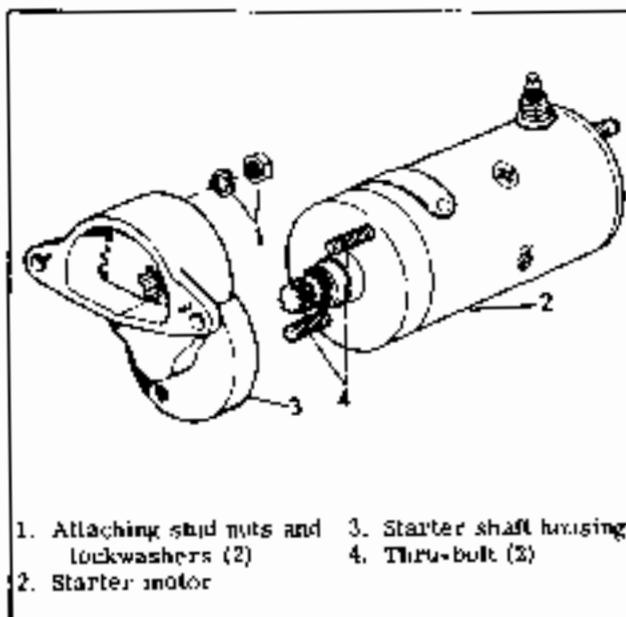

Figure 5-23. Removing Starter Motor
Disconnect solenoid cable from starter motor terminal. Remove attaching nuts and lockwashers (1, Figure 5-23) which fasten starter motor housing (3) to studs on chain housing. Remove starter motor and support plate (not shown) from transmission. It may be necessary to loosen and raise battery carrier to provide clearance. Remove starter motor (2) and starter shaft housing (3) from motorcycle as an assembly.